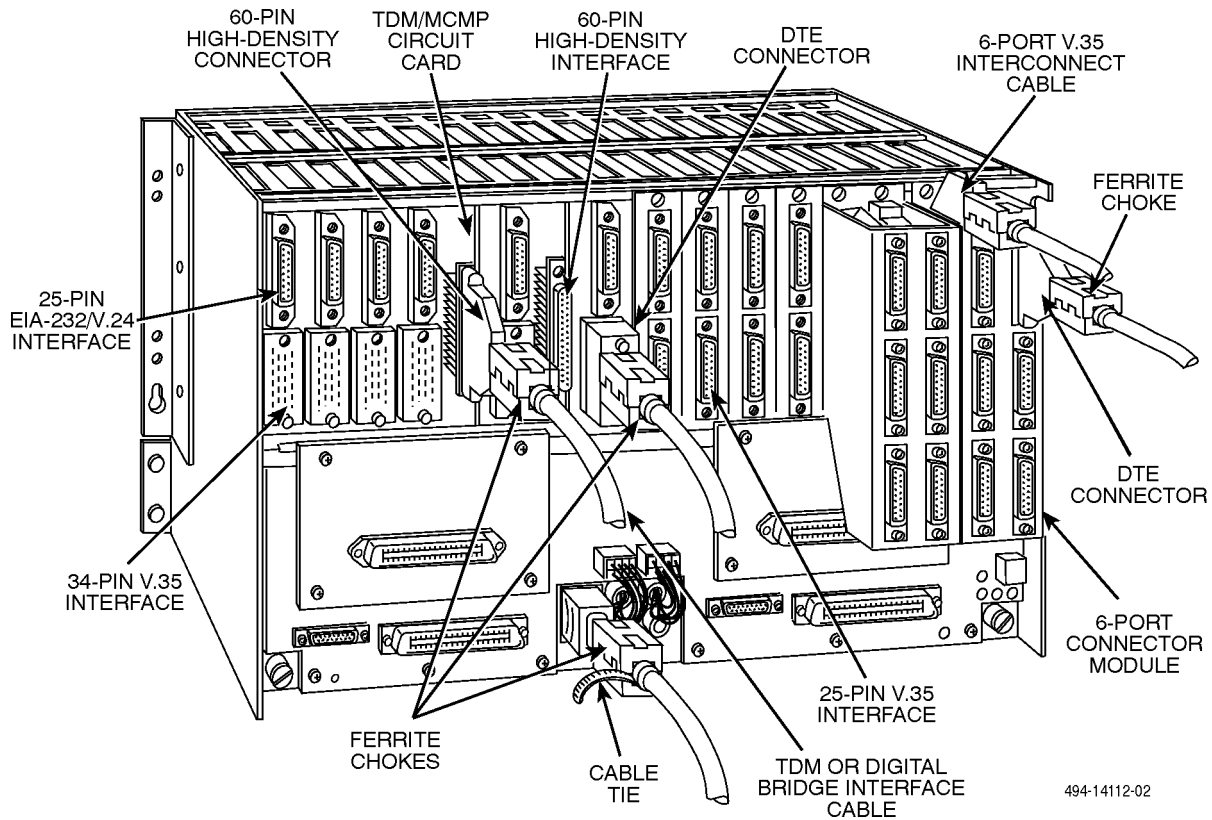

Figure 3-38. Cabling and Ferrite Chokes
7. Connect cabling, install ferrite chokes if supplied (Figure 3-38), configure the unit, and perform verification testing as described in the appropriate *Installation and Operation* or *Applications Guide*.
To install the ferrite choke, refer to Figure 3-38: